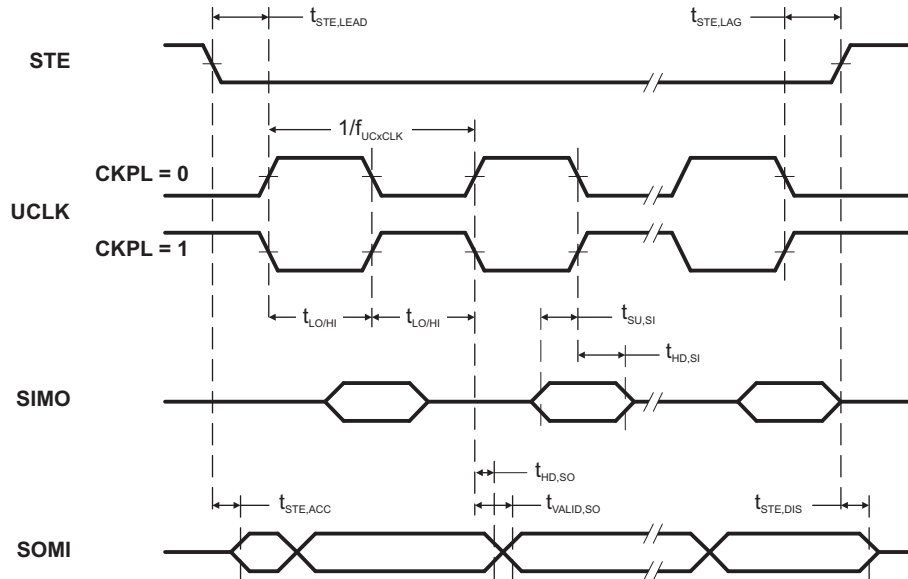
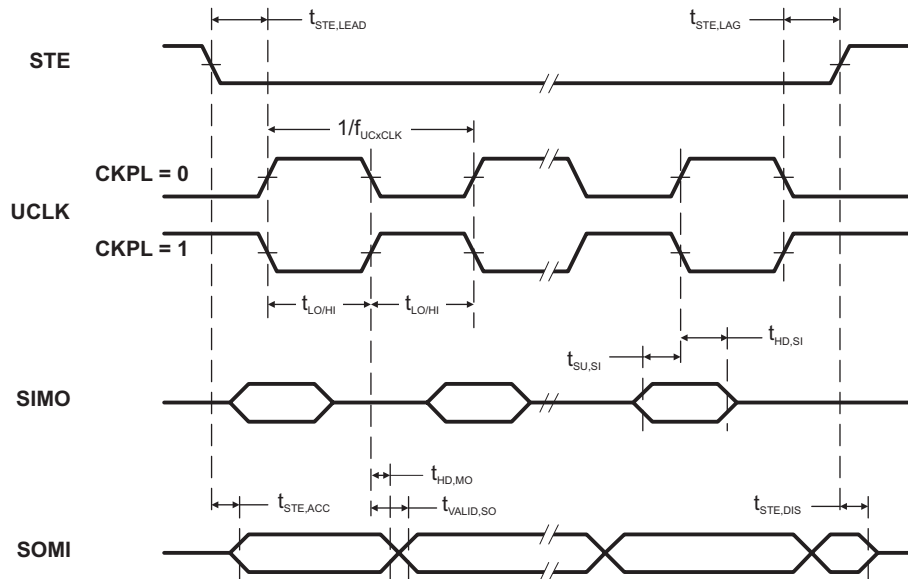

Figure 13. SPI Slave Mode, CKPH = 0
Figure 14. SPI Slave Mode, CKPH = 1
(see Note (1), Figure 13 and Figure 14)
- (2) Specifies the time to drive the next valid data to the SOMI output after the output changing UCLK clock edge. Refer to the timing diagrams in Figure 13 and Figure 14.
- (3) Specifies how long data on the SOMI output is valid after the output changing UCLK clock edge. Refer to the timing diagrams in Figure 13 and Figure 14.